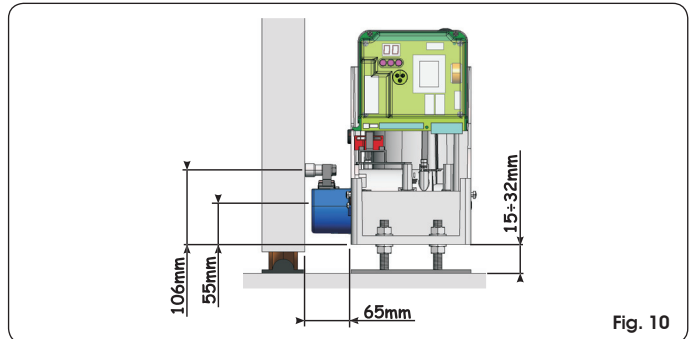

Fig. 10
- ⑤ Adjust the height of the feet and the distance from the gate - refer to Fig. 10.